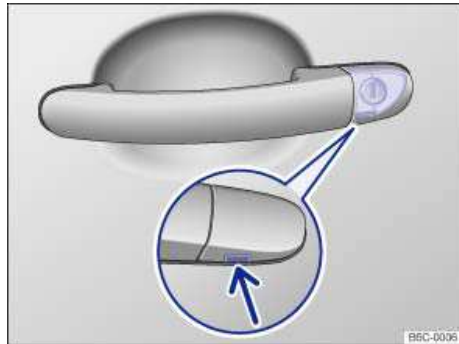

Fig. 153 Door handle on driver door: Concealed lock cylinder.
- If the vehicle has a concealed lock cylinder, insert the key bit from below into the opening of the cover cap on the driver door ⇒ fig. 153 (arrow) and lift the cover cap off. Grasping the door handle and pulling slightly makes it easier to remove the cap.